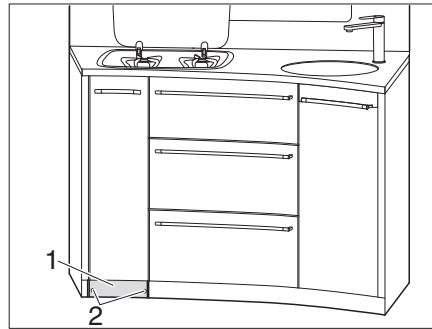

Fig. 123 Unscrewing skirting board
- Unscrew 2 screws (Fig. 123,2) from the skirting board (Fig. 123,1).
- Remove the skirting board (Fig. 123,1).